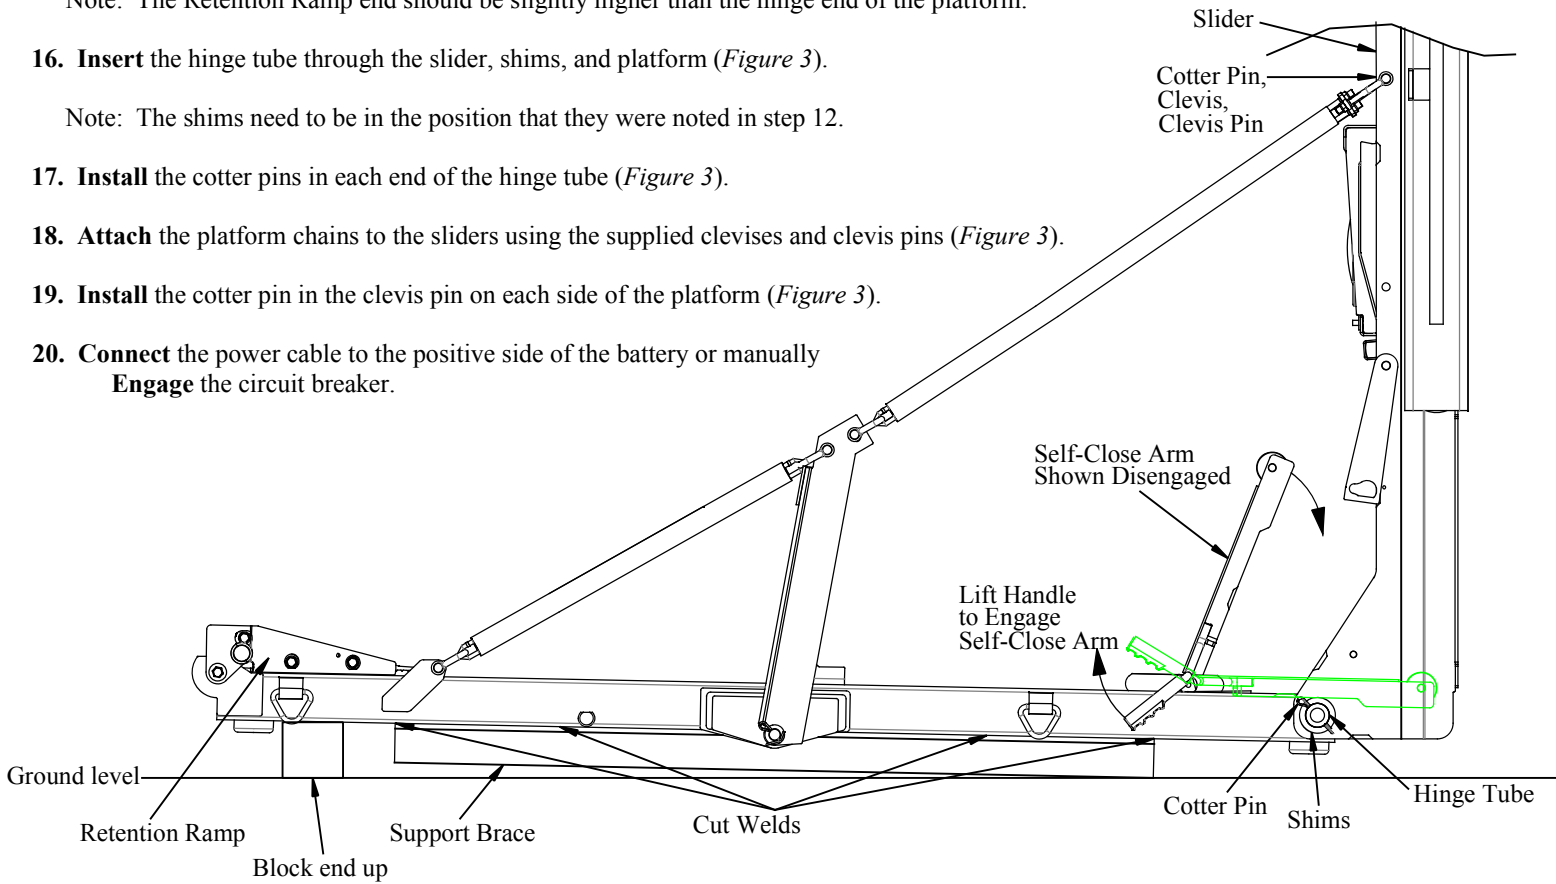

Figure 3
16. **Insert** the hinge tube through the slider, shims, and platform (*Figure 3*).
17. **Install** the cotter pins in each end of the hinge tube (*Figure 3*).
18. **Attach** the platform chains to the sliders using the supplied clevises and clevis pins (*Figure 3*).
19. **Install** the cotter pin in the clevis pin on each side of the platform (*Figure 3*).
27. **Engage** the self-close arm (*Figure 3*).